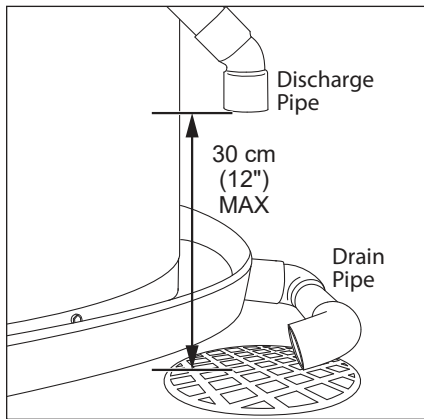

Figure 17 - The end of the T&P Relief Valve discharge pipe must stop no more than 12" (30 cm) above a floor drain or outside.
- 3 Terminate the discharge pipe a maximum of 12" (30 cm) above a floor drain, or outside the building (Figure 17). Do not drain the discharge pipe into the drain pan; instead pipe it separately to an adequate drain. In cold climates, terminate the discharge pipe inside the building to an adequate drain. Outside drains could freeze and obstruct the drain line. Protect the drain from freezing.